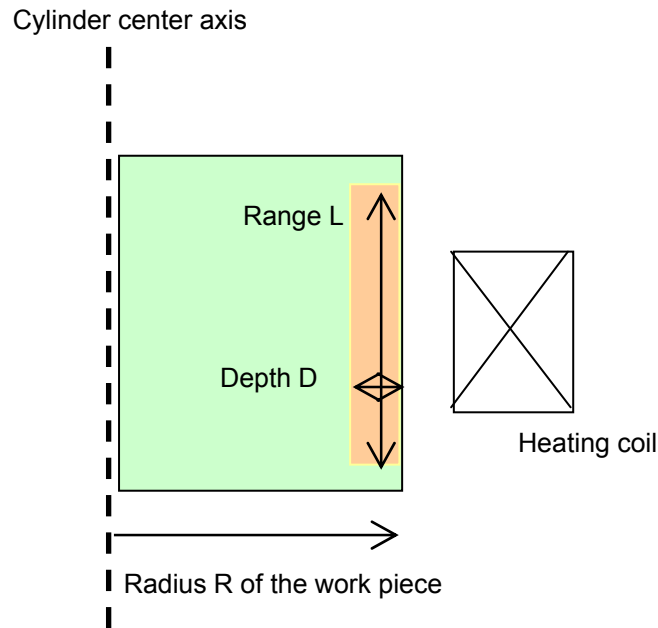

Fig. 7 Scenario Model of a Rough Estimate of Necessary Power
If the work piece is the face of a cylindrical body to be heated, the rough amount of power P_{out} Pou needed to heat it from a room temperature of 20 deg to 900 deg can be estimated according to formulas (6) to (9). Ignoring the heat diffusion here will simplify the formula. The eddy current flow range is expressed by depth D and range L (Fig. 7).